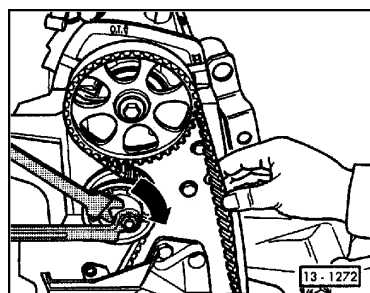

fig. 5
10. Using a special spanner wrench (AST P/N 10.012.86400 or equiv.), tighten the drive belt by rotating the tension pulley in the direction of the arrow (fig. 5). The belt should feel tight when twisted 90 degrees with the thumb and forefinger, halfway between the camshaft and intermediate shaft pulleys. Tighten the pulley retaining nut to 33 ft/lb.